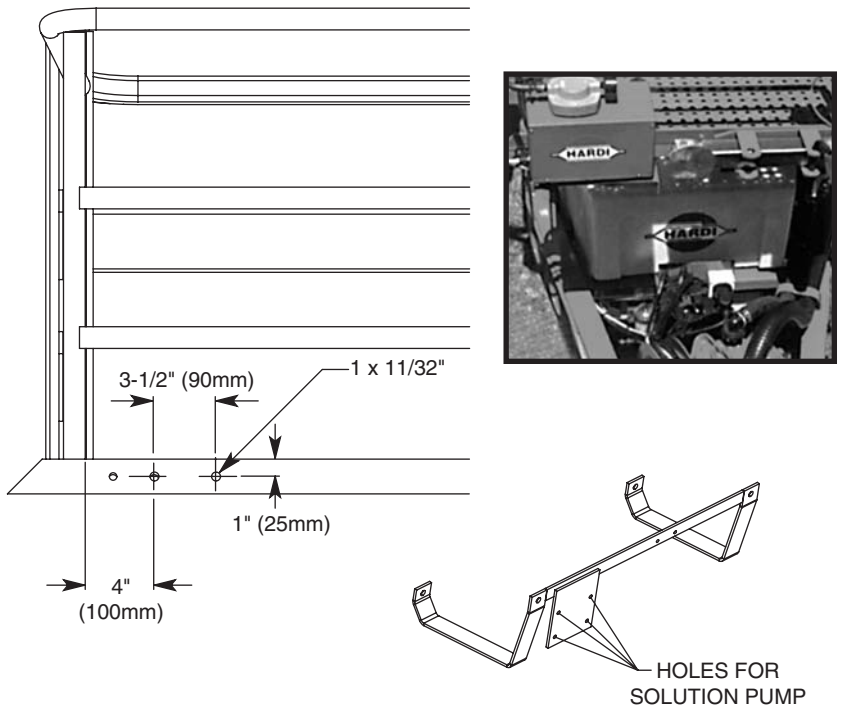

Fig. 23
1. Locate the compressor mounting holes on the front face of the sprayer platform (**Fig. 23**). Remove existing bolt for outside hole. If necessary, drill inside hole as shown in (**Fig. 23**).
3. Place the Compressor Box on the mounting bracket with hose fittings facing away from the sprayer's center line (**Fig. 23**).
4. Locate the mounting holes for the Solution Pump on the front of the Foam Tank mounting bracket. Mount the Solution Pump using (4) bolts (M6x25mm), washers and 6mm nuts. Orient the Solution Pump so the pump head is facing up.